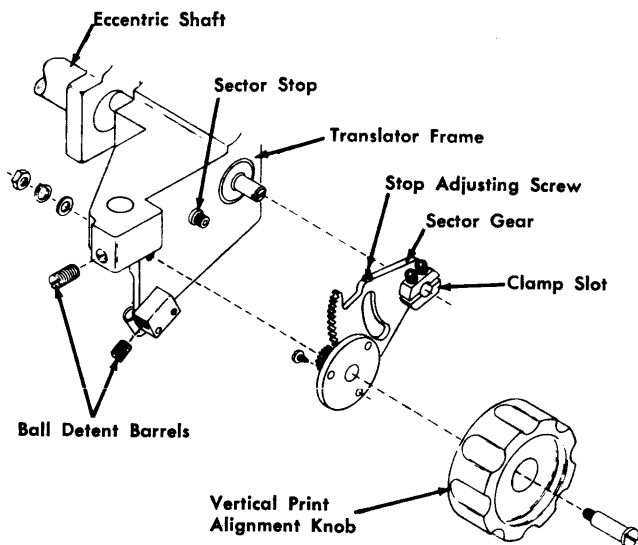

Figure 6. Vertical Print-Alignment Knob
1. Position the eccentric shaft (Figure 6).